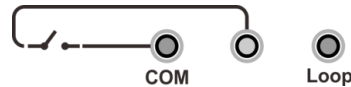

Figure 16 Mechanical switch
(2) The calibrator supports mechanical switch, NPN and PNP electronic switches. The circuit connection of mechanical switch is shown in Figure 16. The electronic switches can be connected through internal power and external power connections. Refer to Figure 17 and Figure 18.